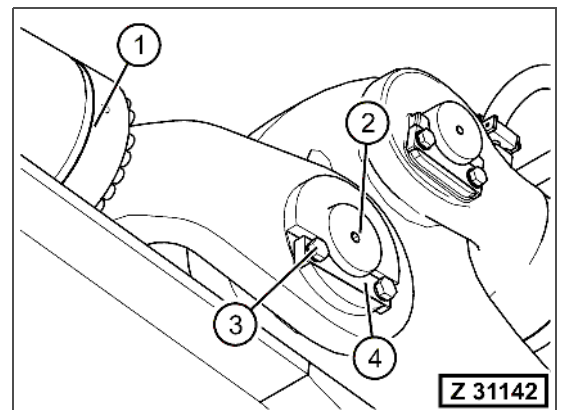

Fig. 5-60
16. Insert the pins (Fig. 5-60, Pos. 2) connecting the stick cylinders (Fig. 5-60, Pos. 1) to the stick.
17. Assemble the shackles (Fig. 5-60, Pos. 4) and two bolts (Fig. 5-60, Pos. 3) with washers securing the pins.